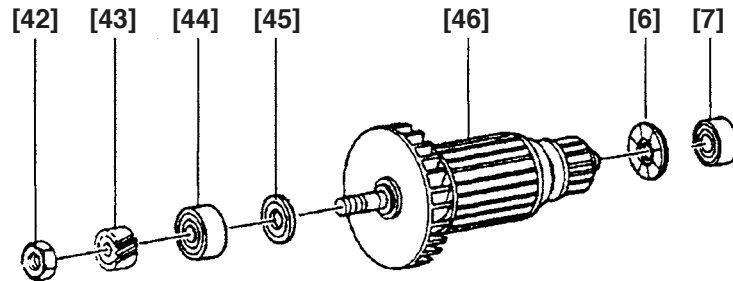

Fig. 8
(7) Disassembly of the Armature [46] (Fig. 8)
- ① Secure the Armature [46] and loosen the Special Nut M7 (right-hand thread) [42] to pull out the Pinion [43].
- ② Remove the Ball Bearing 629VVC2PS2L [44], Washer (A) [45], Ball Bearing 608VVC2PS2L [7] and Dust Seal [6] from both ends of the Armature [46].